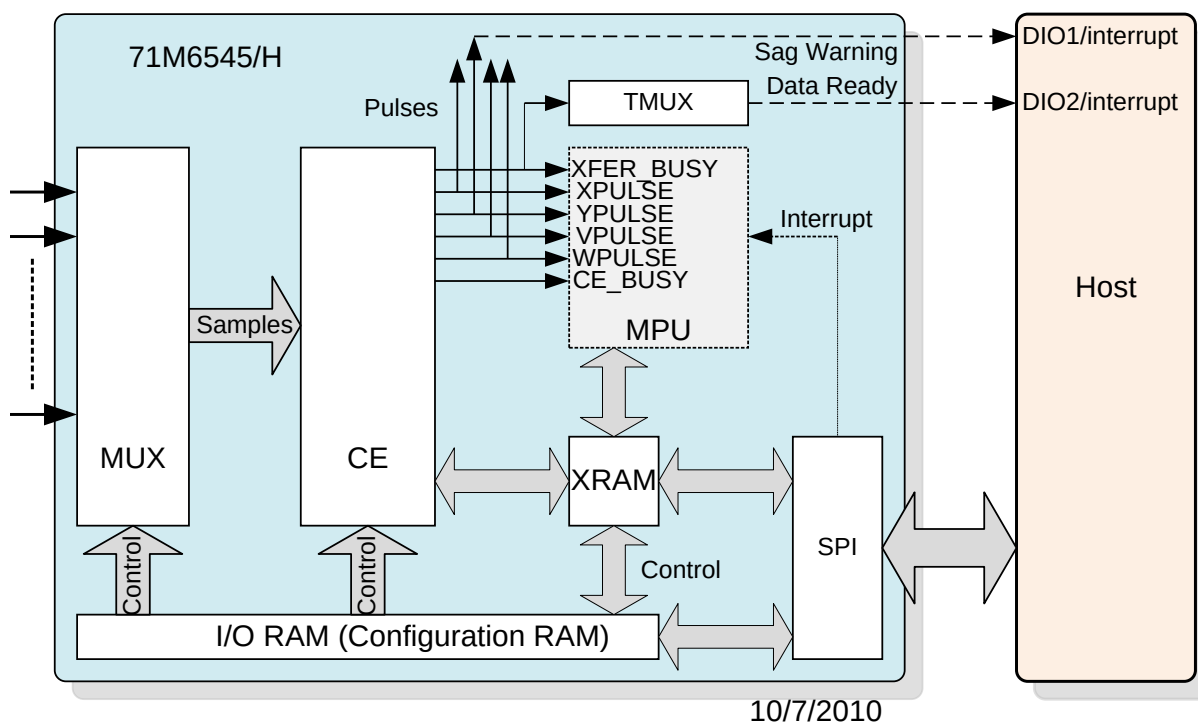

Figure 22: Data Flow
The data flow between the Compute Engine (CE) and the host is shown in Figure 22. In a typical application, the 32-bit CE sequentially processes the samples from the voltage inputs on pins IADC0-IADC1, VADC8 (VA), IADC2-IADC3, etc., performing calculations to measure active power (Wh), reactive power (VARh), A^2h , and V^2h for four-quadrant metering. These measurements are then accessed by the host via the SPI interface, processed further and stored and/or displayed. For example, to obtain the RMS current value in phase A, the host reads the *I0SQSUM_X* register of the CE, scales it with VMAX, IMAX, and the LSB, as given in the CE Interface description (see 5.4 CE Interface Description on page 100), and then performs a square-root operation. Similarly, momentary real power and reactive power available via the *WSUM_X* and *VARSUM_X* registers only have to be scaled by the host, while the apparent power has to be post-processed as follows:
Figure 22 illustrates the CE-to-host data flow.